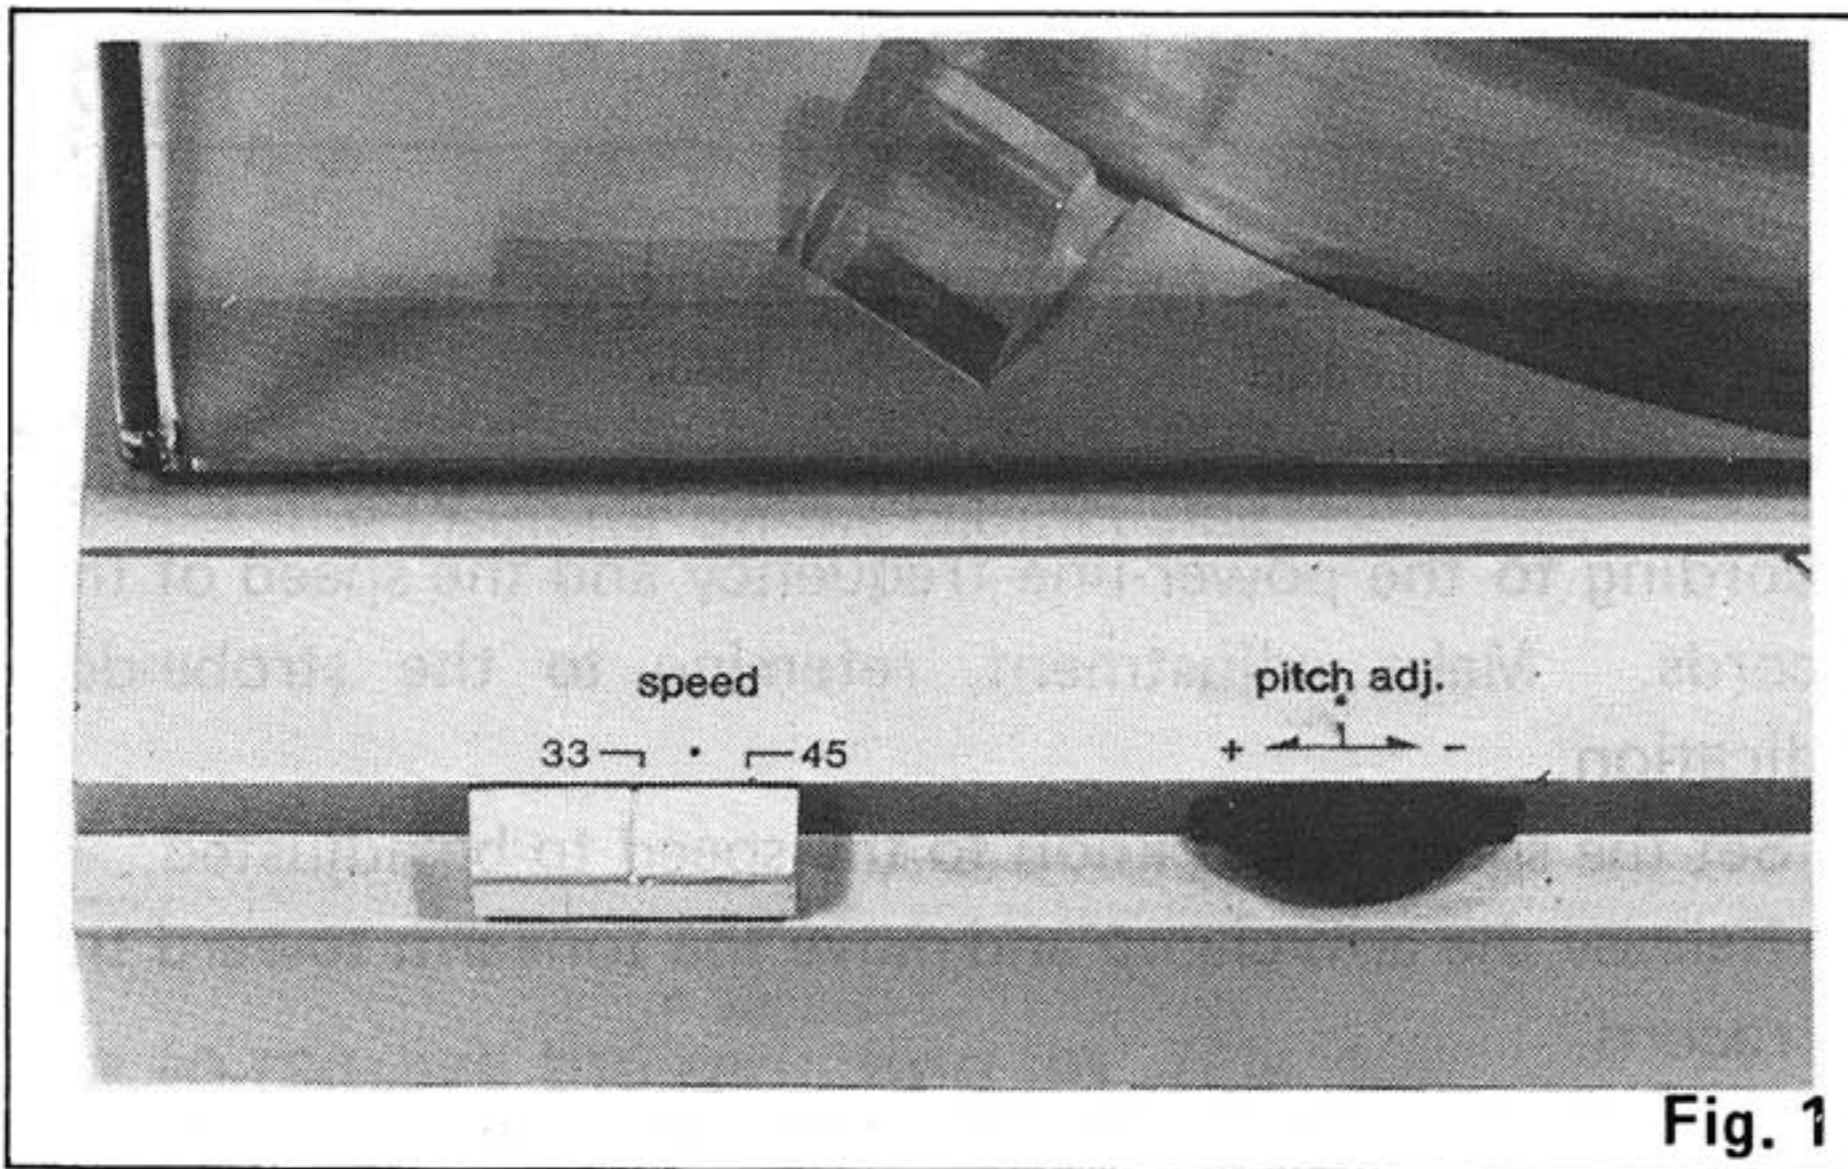

Fig. 1
2. Set the speed select knob to the desired record speed. (See Fig. 1.)